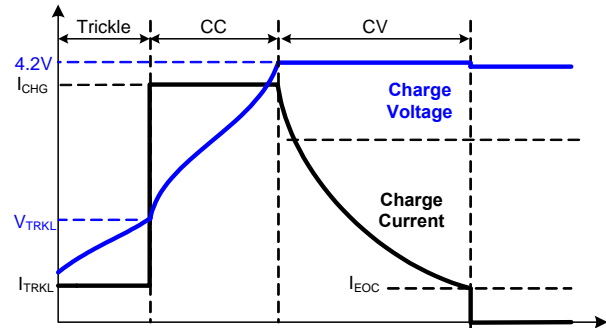

Figure 17. Charge Profile
The MC34674 follows the standard charging profile with trickle, constant-current (CC) and constant-voltage (CV) charge modes, as shown in Figure 17. The trickle-mode current I_{TRKL} is pre-set to 10% of the CC-mode current I_{CHG} when the battery voltage is lower than the trickle-mode threshold V_{TRKL} . In the CC-mode, the output voltage increases until it reaches 4.2V. Then the charger enters the CV-mode with the output voltage regulated at 4.2V. The end-of-charge (EOC) current threshold I_{EOC} , which is utilized to indicate the termination of a charge cycle, is preset to 10% of the CC-mode current.
The fast charge contains two modes, the constant-current (CC)-mode and the constant-voltage (CV)-mode. As shown in Figure 17, the charge current is regulated at a constant value in the CC-mode and the charger output voltage is regulated at a constant 4.2V in the CV-mode. The charge current can be reduced by the die temperature regulation loop when the die temperature reached 110°C. The CC-mode current is set internally by Freescale. Available values are given in Table 6. Consult Freescale for values that is not listed in Table 1.